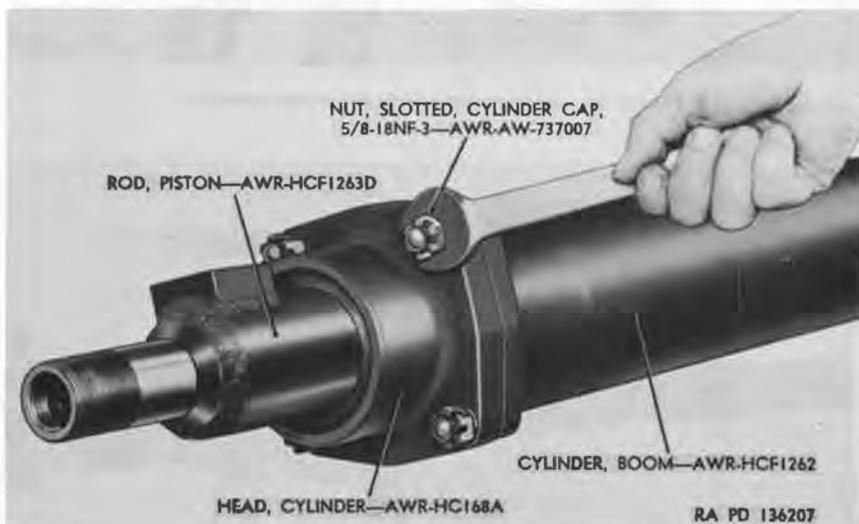

Figure 55. Removing cylinder head.
- (1) Remove cotter pins and four slotted nuts from cylinder head (fig. 55) and separate piston rod with cylinder head from boom cylinder.